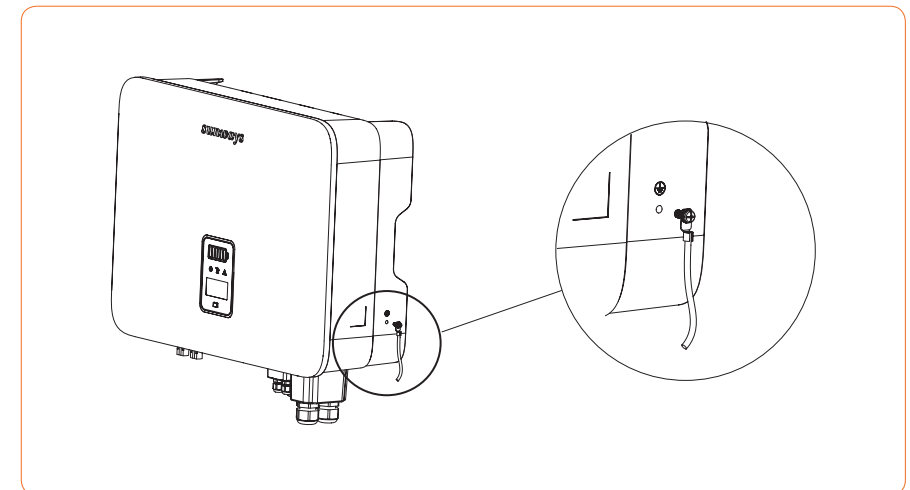

Figure 4-16 Grounding terminal connection
- ① The external grounding terminal is located in the lower right side of the inverter.
- ② Fix the grounding terminal to the PE wire with a proper tool and lock the grounding terminal to the grounding hole in the lower right side of the inverter. As shown in Figure 4-16: